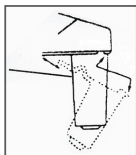

Figure 1
- Installation and disassembly of outlet nozzle are shown in the diagram as below(Figure 1):